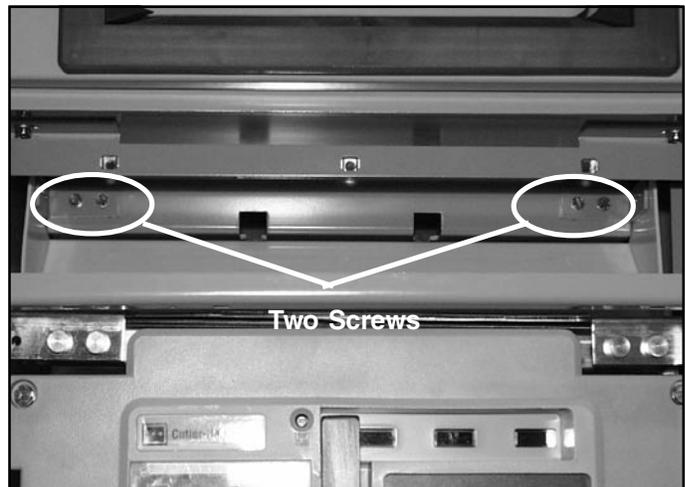

Figure 3-5.4
Step 4. Remove arc barrier above the breaker by removing the four screws as shown in Figure 3-5.4 that attach the arc barrier to the cell divider pan. Slide the arc barrier forward and remove it from the cell.